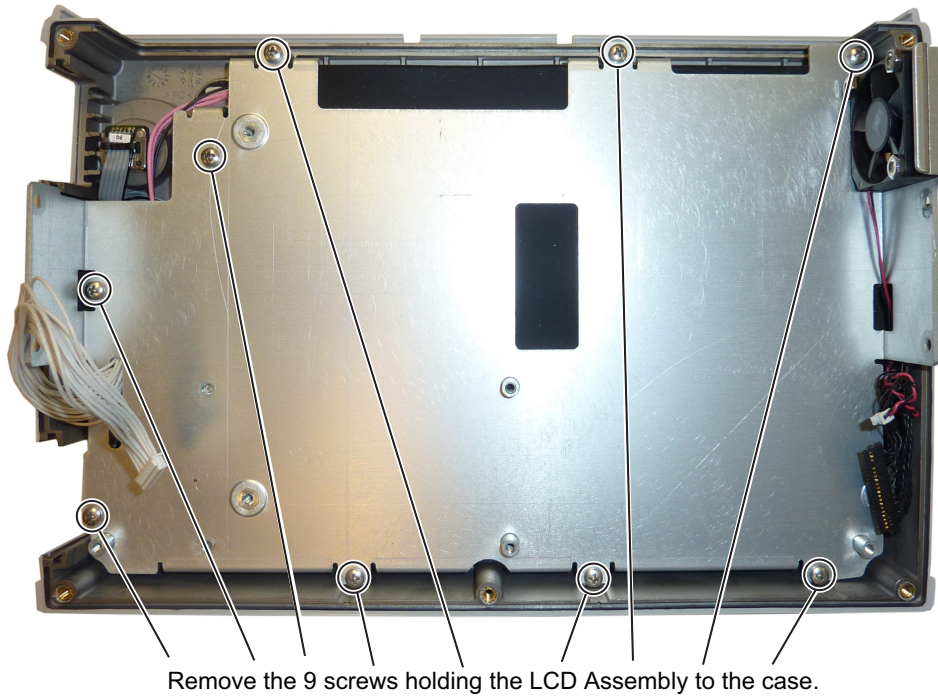

Figure 7-11. Removing the LCD Assembly
- Remove the 9 screws connecting the LCD assembly to the front half of the case (Figure 7-11).